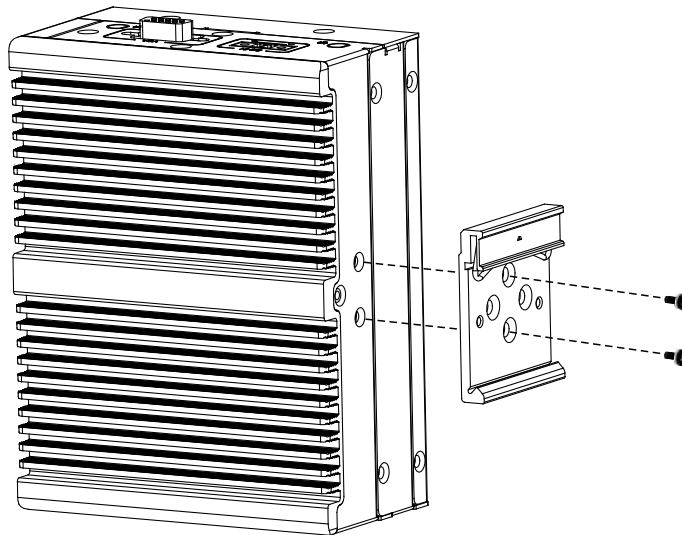

Figure 3-18: Mounting the DIN Rail
- Step 1:** Attach the DIN rail mounting bracket to the rear panel of the embedded system. Secure the bracket to the embedded system with the supplied retention screws (Figure 3-18).